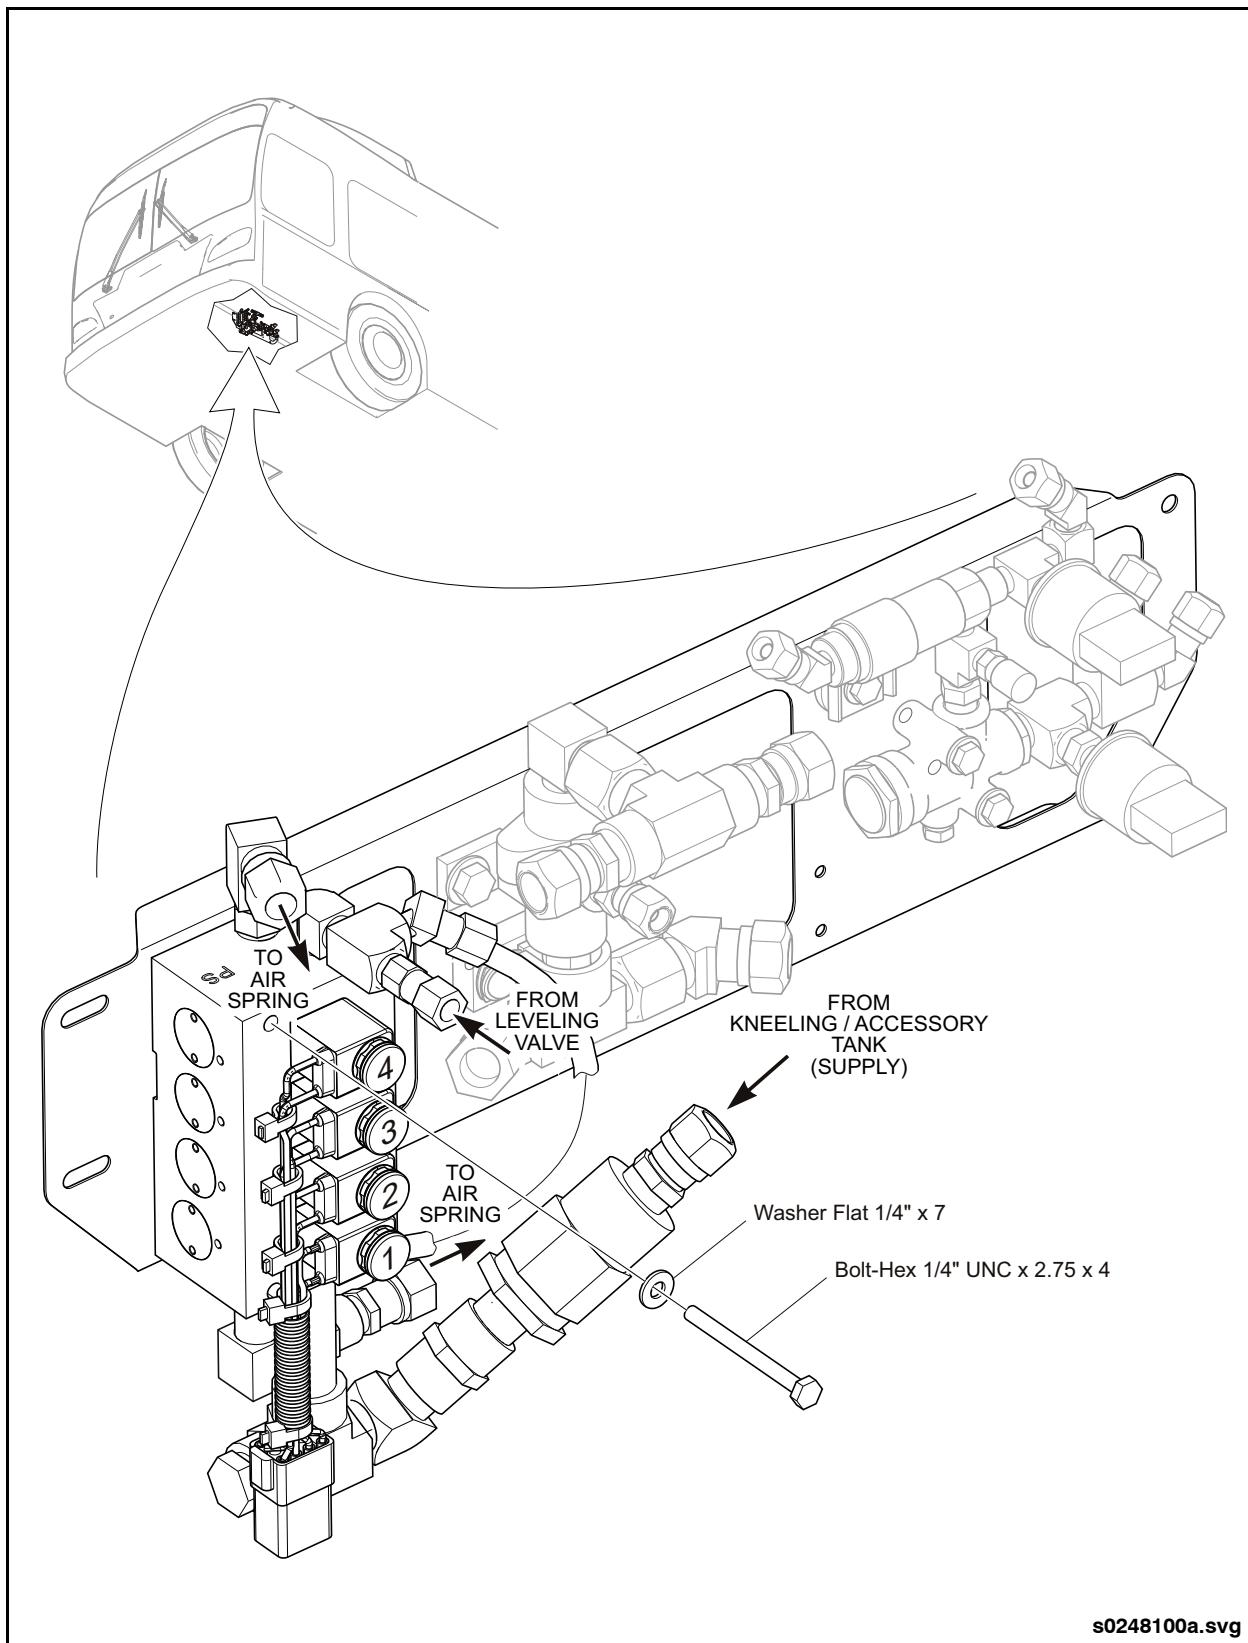

Fig. 8-29: Front Kneeling Valve Installation
2. Drain the air system to remove pressure in the lines. See “Fig. 8-29: Front Kneeling Valve Installation” on page 94.